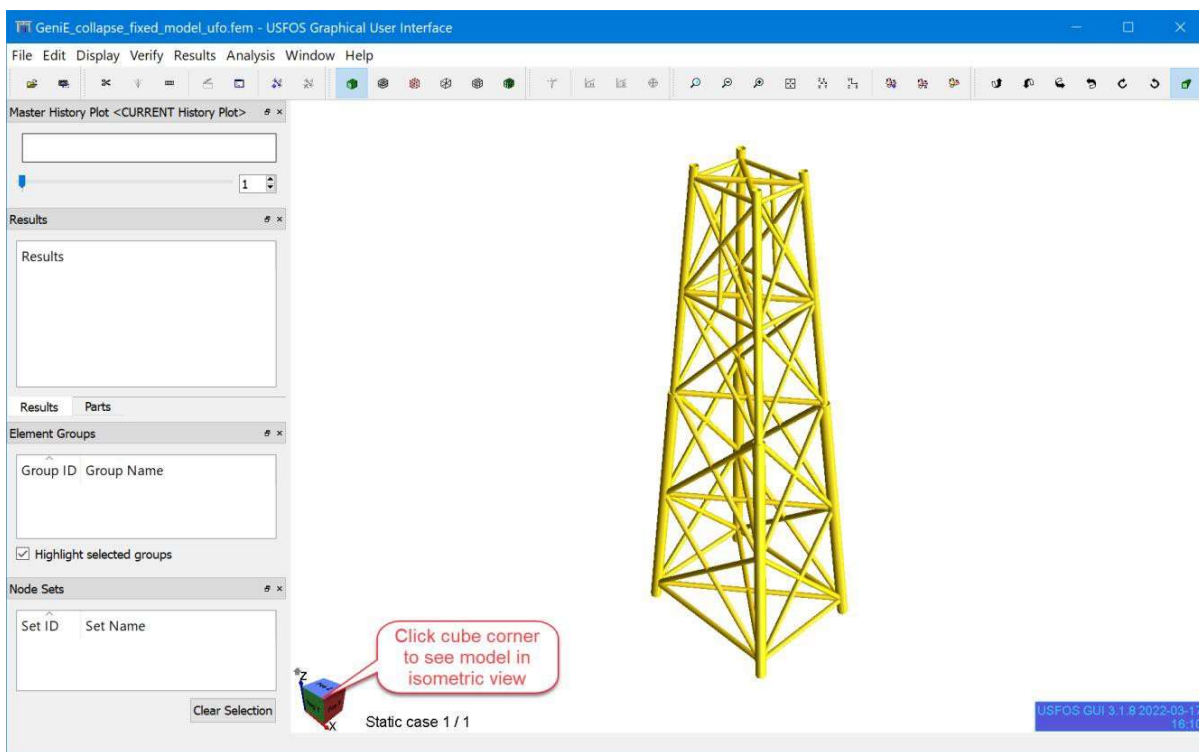

Figure 2-4 The Usfos window displaying the model
- Use File | Open USFOS Model File to select the file GeniE_collapse_fixed_model_ufo.fem and see the model appear in the Usfos window (seen from above). Click the corner of the Navigation Cube to see the model in isometric view as shown in **Figure 2-4**.